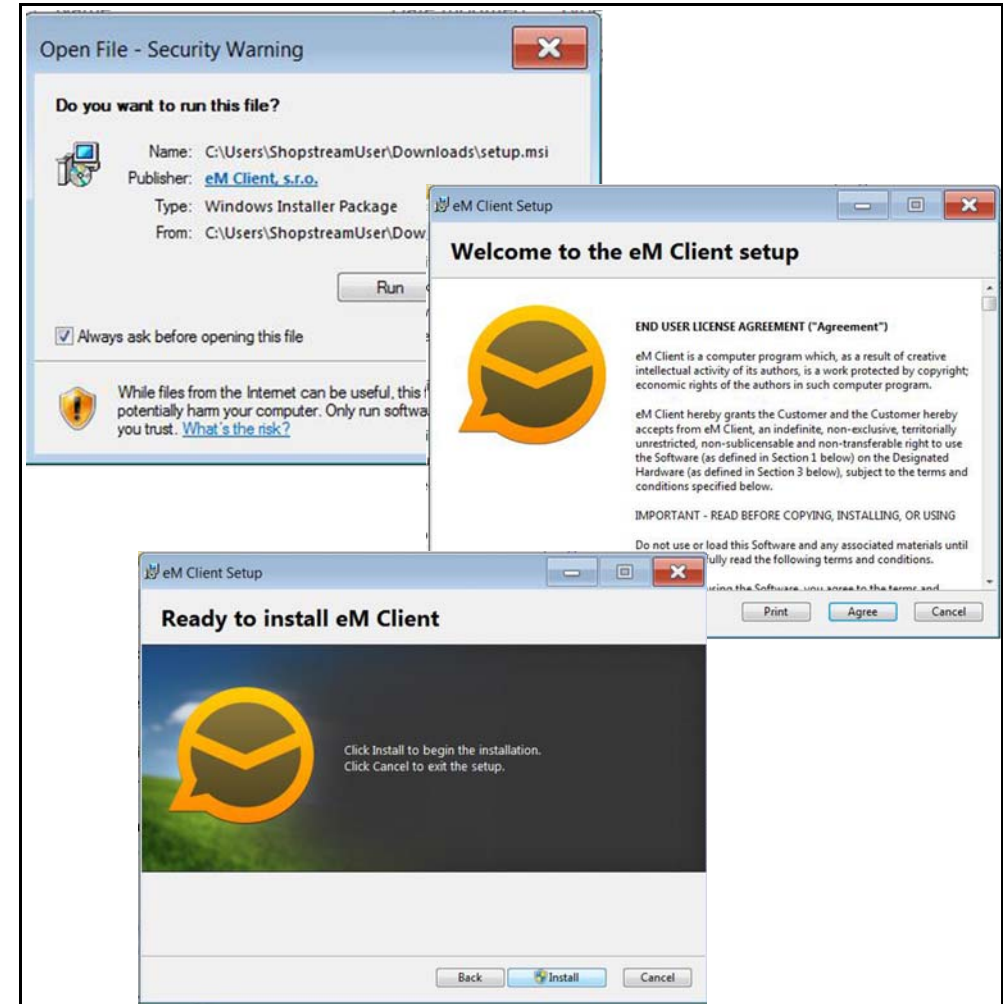

Figure 1-10
2. Install the software following the screen prompts (Figure 1-10).